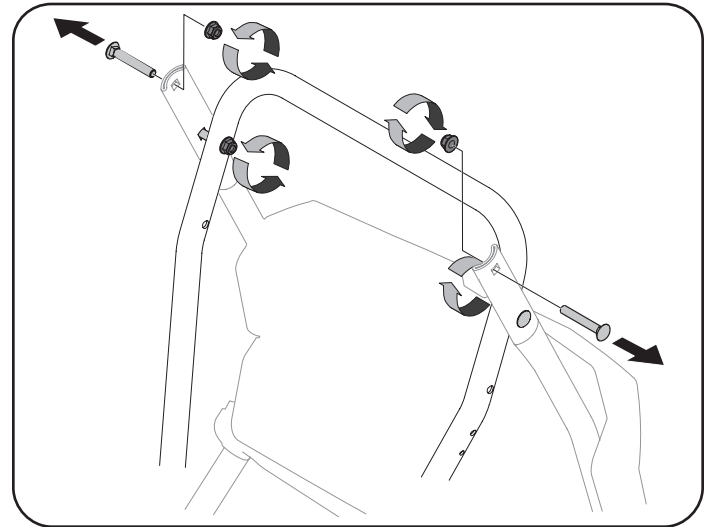
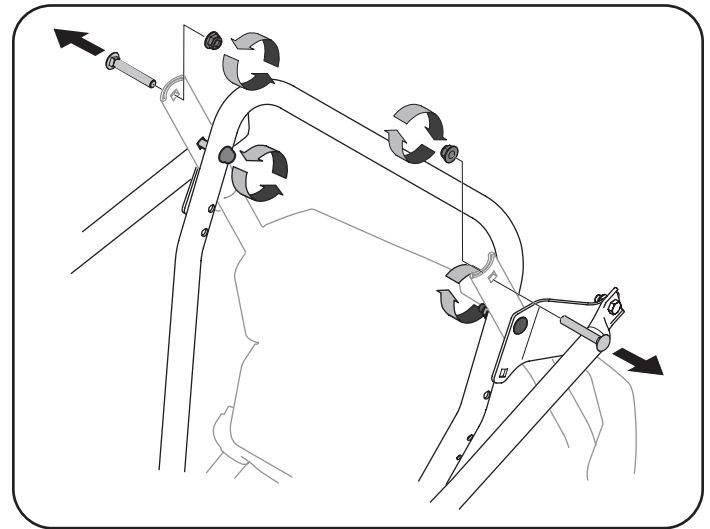

Figure 3
Figure 4
3. Loosen the top two lock nuts securing the upper and lower handle and remove the two carriage screws from the lower handle and set aside. See Figure 3 or Figure 4 for units with side supports.